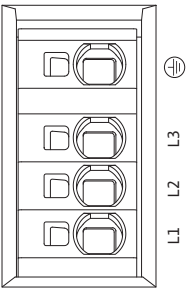

Fig. 30: Borne electrice (borne de rețea)
- Borne electrice (borne de rețea) (Fig. 30)